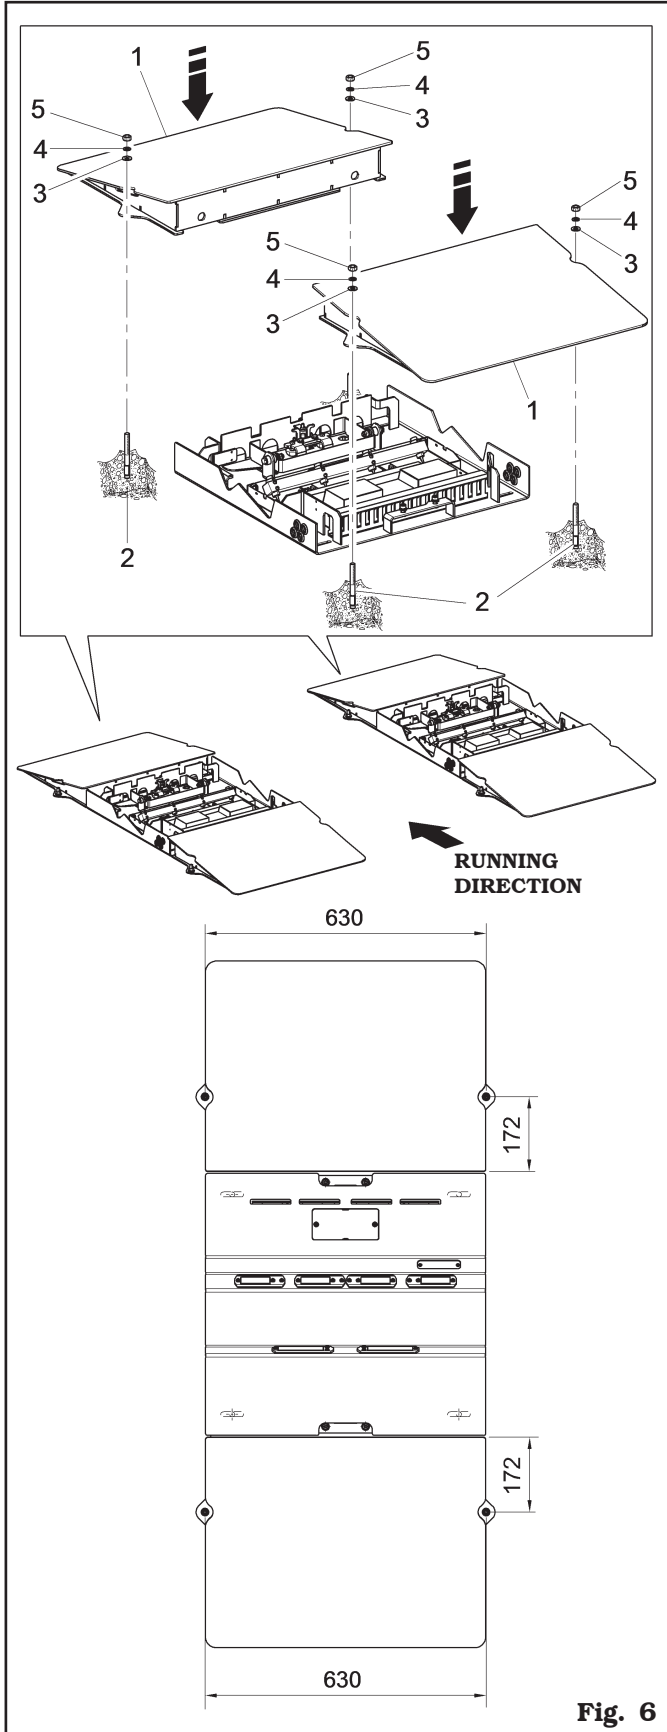

Fig. 6
2. Fix the ramps (**Fig. 6 ref. 1**) to factory's floor using the supplied small blocks (M8) (**Fig. 6 ref. 2**), washers (D8) (**Fig. 6 ref. 3-4**) and nuts (M8) (**Fig. 6 ref. 5**).